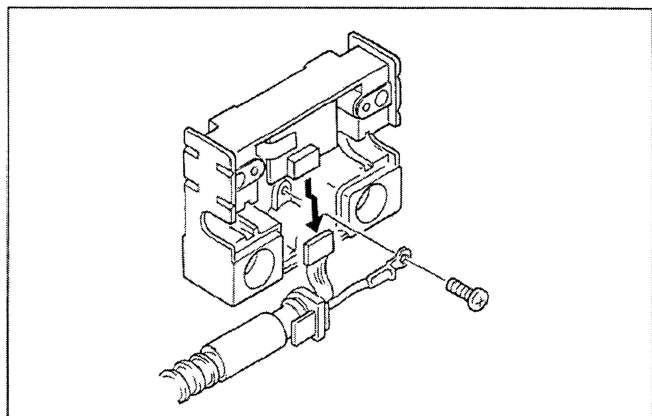

Fig. 4
Disconnecting the cable (Fig. 4)
1. Pull out the cable connector, which connects the cable to the preamplifier, in the direction of the arrow as shown in Fig.4 to disconnect the cable